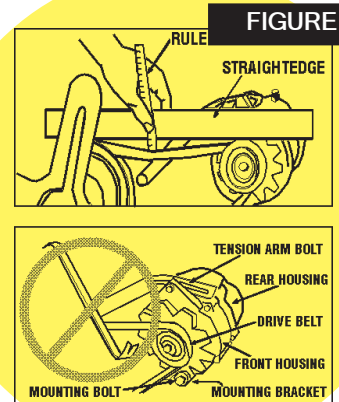

FIGURE 1
- ◆ Adjust belt tension and tighten belt tension bolt as illustrated in Figure 1. Do not use heavy tools to pry on alternator case; hand pressure is adequate. When an automatic tensioner system is not installed as is common with "V" belts, tension the belt to the engine manufacture's specification. This is typically half an inch of deflection.